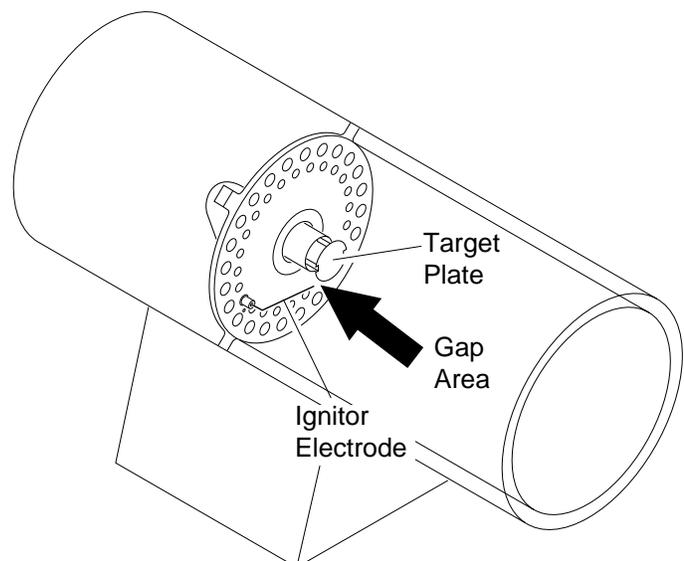

Figure 15 - Clearance between Ignitor Electrode and Target Plate
7. Set gap between ignitor electrode and target plate to 4.3 mm (see Figure 15).